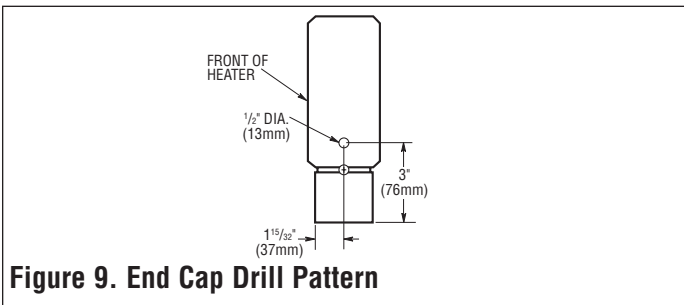

Figure 9. End Cap Drill Pattern
- Connecting power supply cables may be routed from heater to heater by drilling a 1/2-inch (13mm) diameter hole in the end caps for the heaters that fit together (See Figure 9). To prevent possible damage to internal heater wiring, all drilling of end caps must be done with end caps removed from heater.